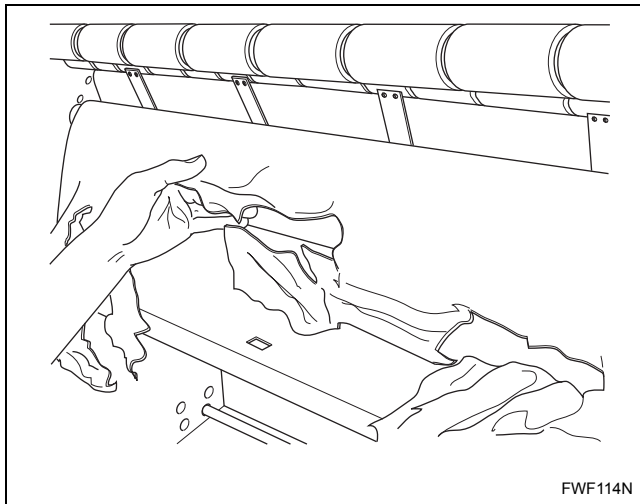

Figure 13
- d. Guide protective paper out of machine. Refer to *Figure 13*.